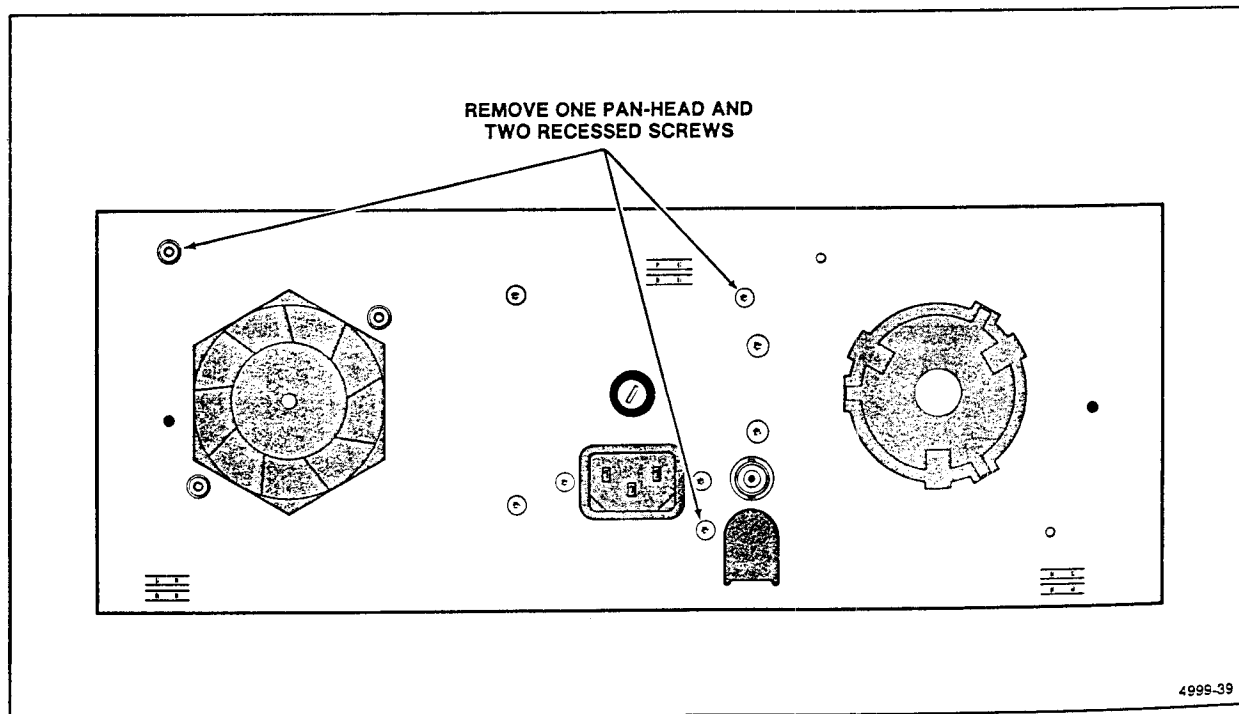

Figure 6-9. Location of screws securing Power-Supply shield and the support bracket to the rear chassis frame.
5. Remove one pan-head and two recessed screws securing the Power-Supply shield to the rear chassis frame. See Figure 6-9 for the location of the three screws on the rear chassis frame.